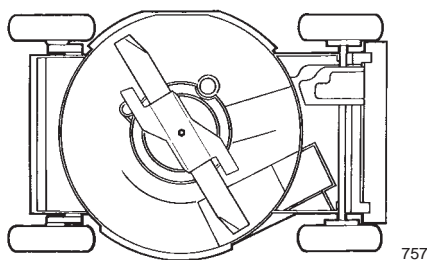

Figure 14
To ensure the best performance, keep the underside of the housing clean (Fig. 14).
3. Tip the lawn mower onto its **left** side (air cleaner up) (Fig. 14).